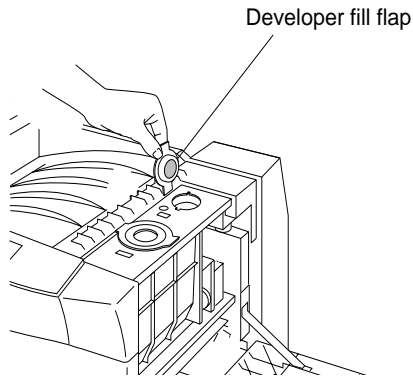

Figure 4-17 Opening the Developer Fill Flap
7. Open the developer fill flap, as shown in Figure 4-17.